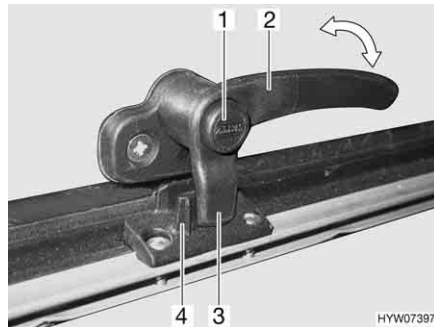
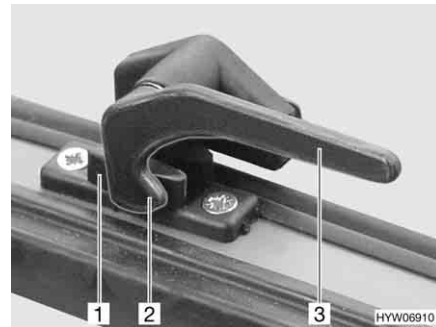

Fig. 79 Catch lever with safety knob in "closed" position
Fig. 80 Catch lever in "closed" position
- Press and hold the security button (Fig. 79,1), if present.
- Turn the catch lever (Fig. 79,2 or Fig. 80,3) a quarter turn towards the centre of the window.
- Turn the catch lever (Fig. 79,2 or Fig. 80,3) a quarter turn towards the window frame. The locking catch (Fig. 79,3 or Fig. 80,2) on the catch lever is entirely on the inner side of the window catch (Fig. 79,4 or Fig. 80,1).
- "Firmly closed" (Fig. 79 and Fig. 80)